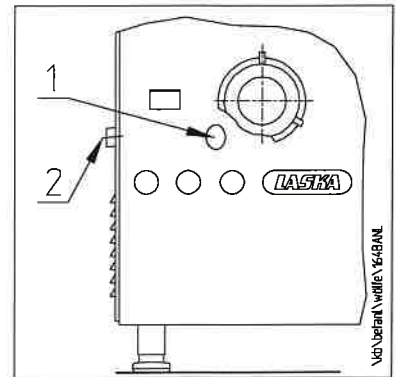

Fig.1
Before the cutting set is inserted, check that the working worm has been slid in completely. This is the case when the worm is propped up against the support surface of the holeplates. (see fig.1)
- * At least once a day, flush cleaning openings (1) and (2) with hot potable water. (Fig. 1)